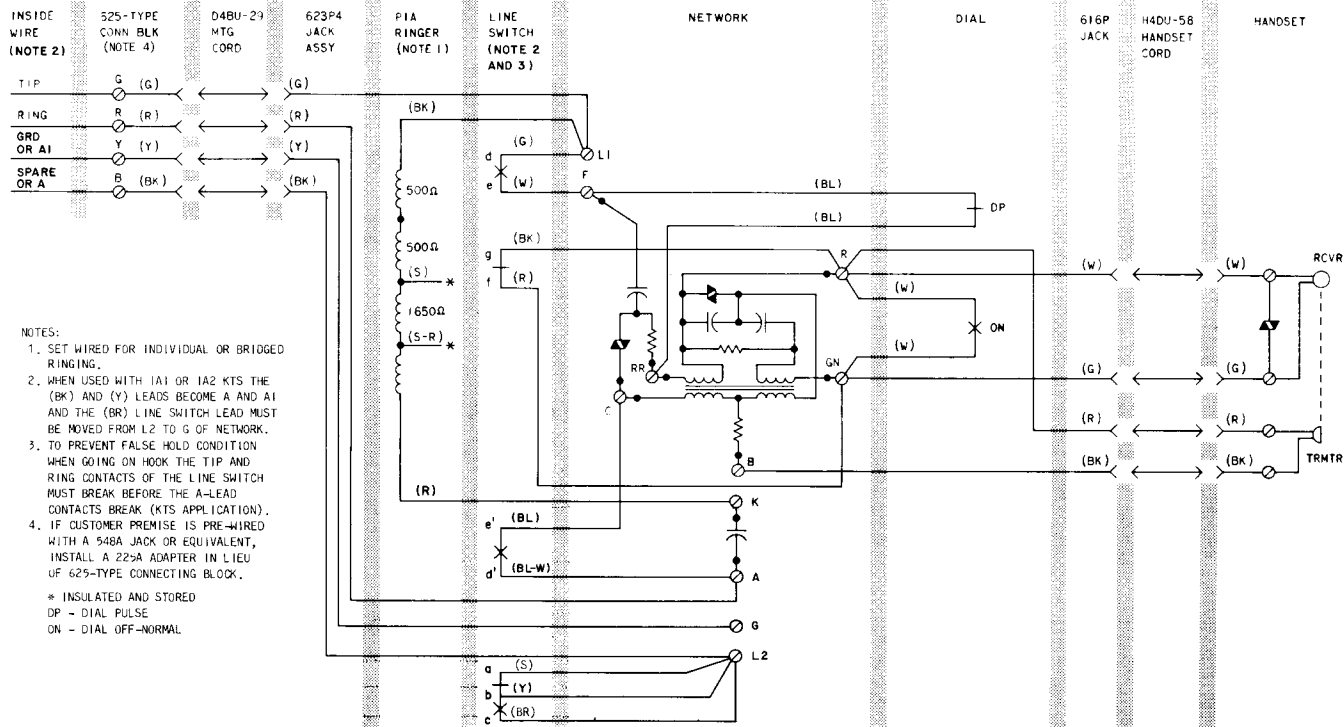

Fig. 4—882B200 Telephone Set, Connections
3.03 Internal connections for the 882B200 telephone set are shown in Fig. 4.